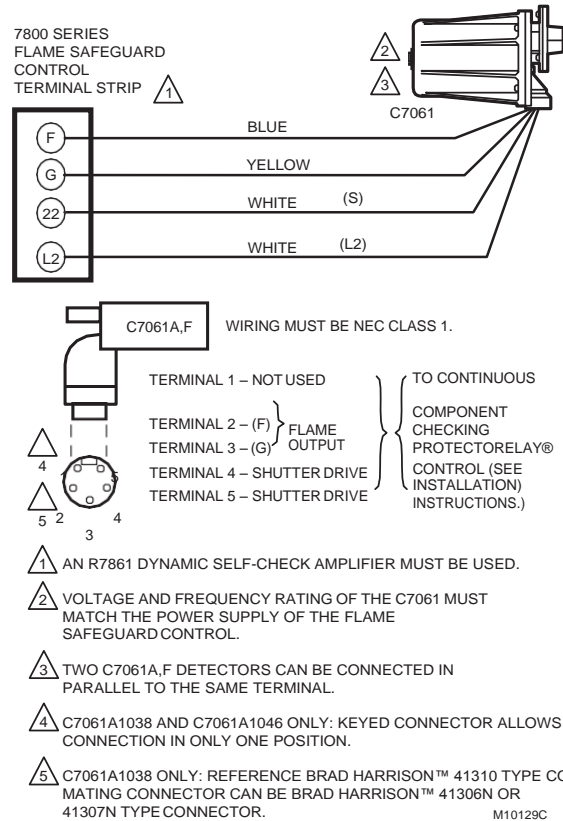

Fig. 10. Wiring diagram for C7061A,F Detectors with 7800 Series Flame Safeguard controls with shutter drive circuitry.
**WIRING (FIG. 10)**
7 Refer to Fig. 10 for wiring connections.
Fig. 10. Be careful to make the proper connections of positive (red) meter lead to positive (+) control jack and negative (black) meter lead to negative (-) or (-Com) jack with 7800 Series controls. When the 7800 Series control has a Keyboard Display Module, a zero to five Vdc voltage is displayed on the module.